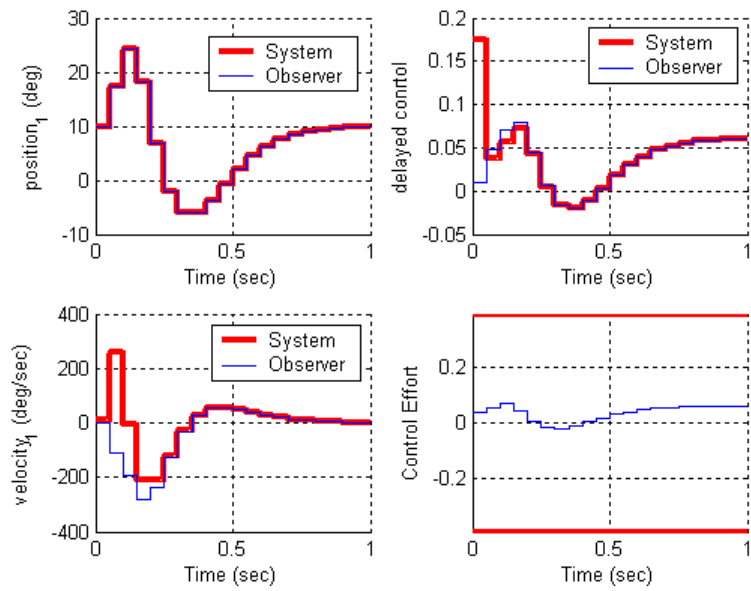

Figure 4. Results for problem 2b.
b) Assume the only known state is the position, and the output is the position of the disk. Use a sampling interval of 0.05 seconds, assume all the state feedback poles are at 0.5, and the observer poles are at 0.2 and 0.3. Also assume the system initially starts at a position of 10 degrees, with an initial velocity of 10 degrees, and an initial delayed input of 10 degrees (be careful of units here! The model works in radians.). The initial estimates of the observer are zero. For a 10 degree step input you should get the graph shown in Figure 4. Turn in your plot.